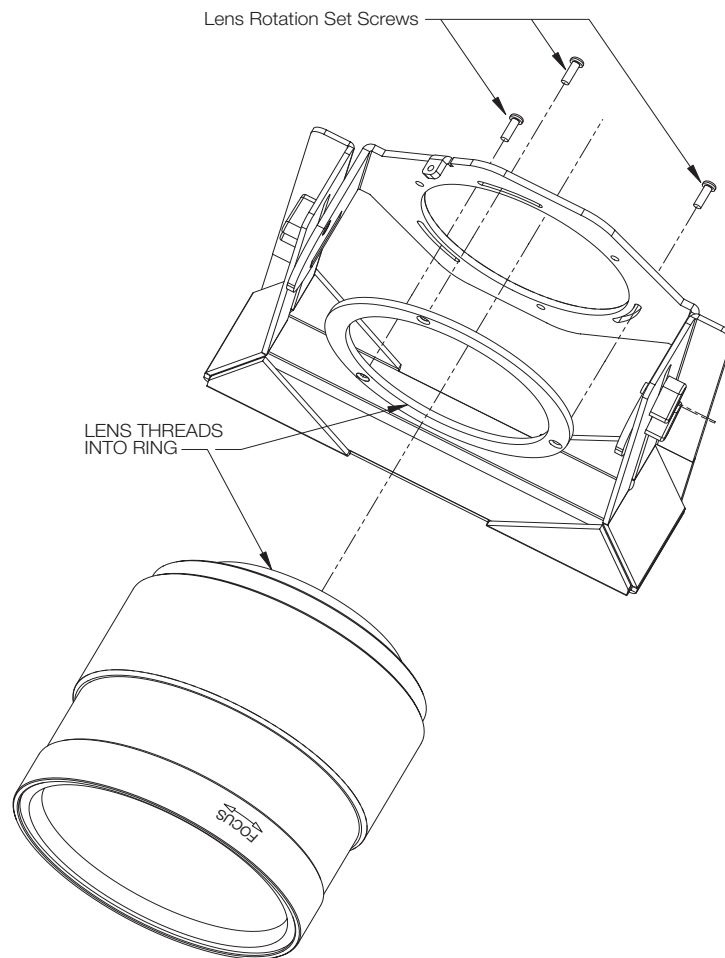

Figure 3-17. Attaching the Anamorphic Lens to the Lens Adapter Ring
4. Use the Lens Rotation Set Screws to attach the Lens Adapter Ring (item #1) to the Pitch Adjustment Yoke (item #2); see Figure 3-17. (Use the curved, oval-shaped holes on the Pitch Adjustment Yoke.)
2. Loosen the three Lens Rotation Set Screws (shown in Figure 3-17) on the lens adapter ring just enough to allow it to rotate freely.